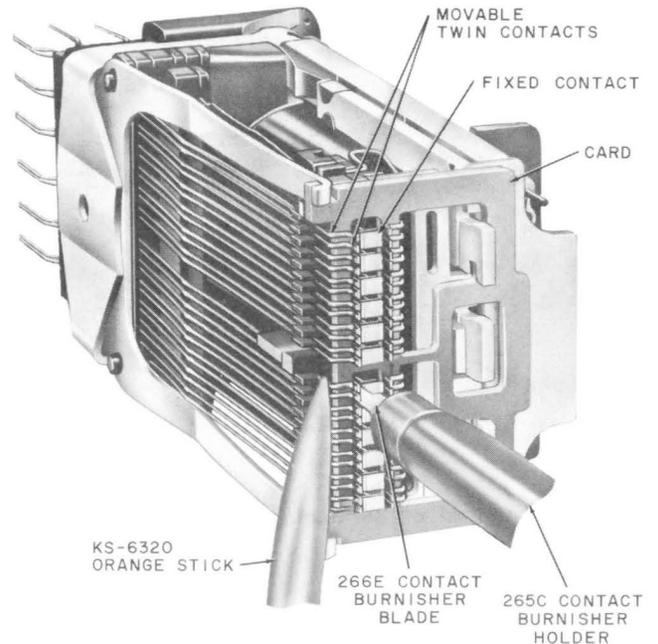

Fig. 13—Method of Burnishing Contacts on Wire-Spring Relays
4.18 Wire-Spring Type Relays (AF-, AG-, AJ-, AK-, AL-, AM-, 286-, 287-, and 288-Type Relays): The life expectancy of gold overlay or other precious metal contacts will be severely shortened by indiscriminate burnishing, and, therefore, burnishing precious metal contacts is not recommended and should be done only when all other means prove ineffective. If the contacts cannot be cleaned by the brush, wiping, or spray methods, insert the 266E blade in the 265C contact burnisher holder with the narrow end outward. In the case of normally open contacts, place the blade between the contacts so that both of the twin contacts will rest on one surface of the blade when the relay is operated or the contacts are pressed together. Insert the blade only to the inner edge of the contacts to ensure that the blade will clear the card at all times. Manually operate the relay or press the contacts together with the flat portion of the KS-6320 orange stick applied to the twin springs at the point where they rest on the card as shown in Fig. 13. Then move the burnisher back and forth to burnish the contacts. To burnish normally closed contacts, manually operate the relay, insert the blade between the contacts, release the relay, and burnish the contacts as described above.